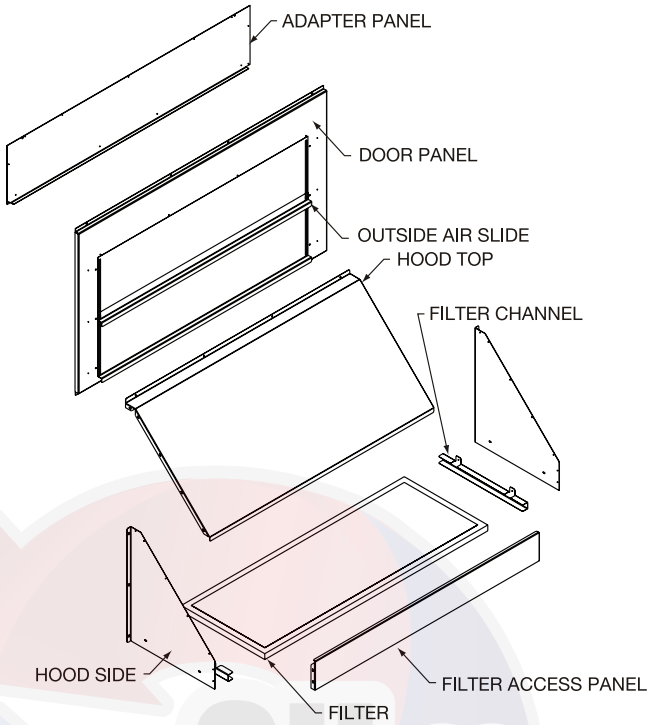

Fig. 27 — Motorized Outside Air Damper
1. Check for correct number of parts shown in Fig. 27 and the following list.
3. Adjust the position of the outside air slides on the door panel to determine the amount of fresh air provided to the unit. See Fig. 27.